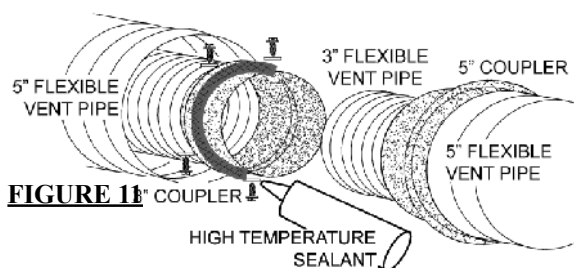

FIGURE 11
8. If more vent pipe needs to be used to reach the fireplace, couple them together as illustrated. The vent system must be supported approximately every 3 feet for both vertical and horizontal runs. Use noncombustible strapping to maintain the minimum 1" clearance to combustibles. Figure 11.